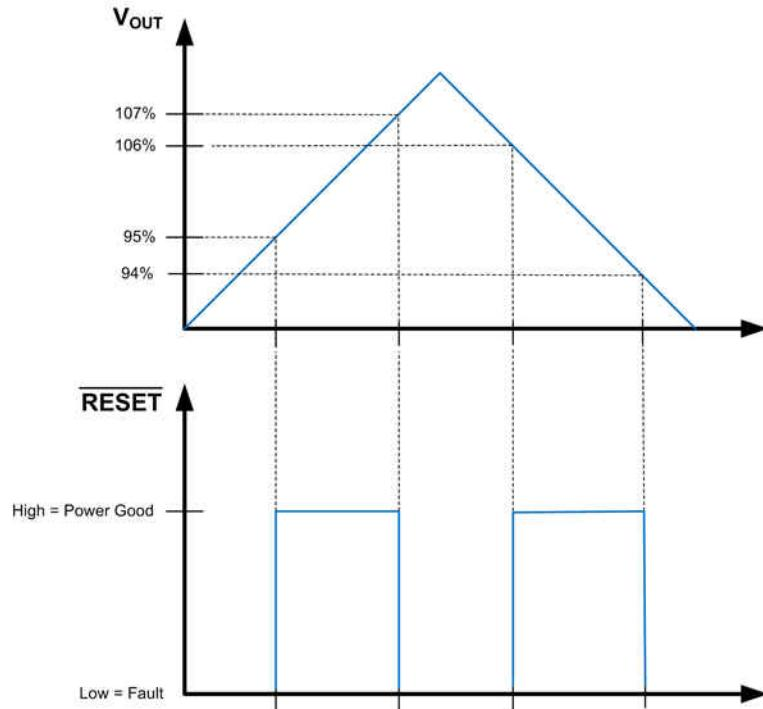
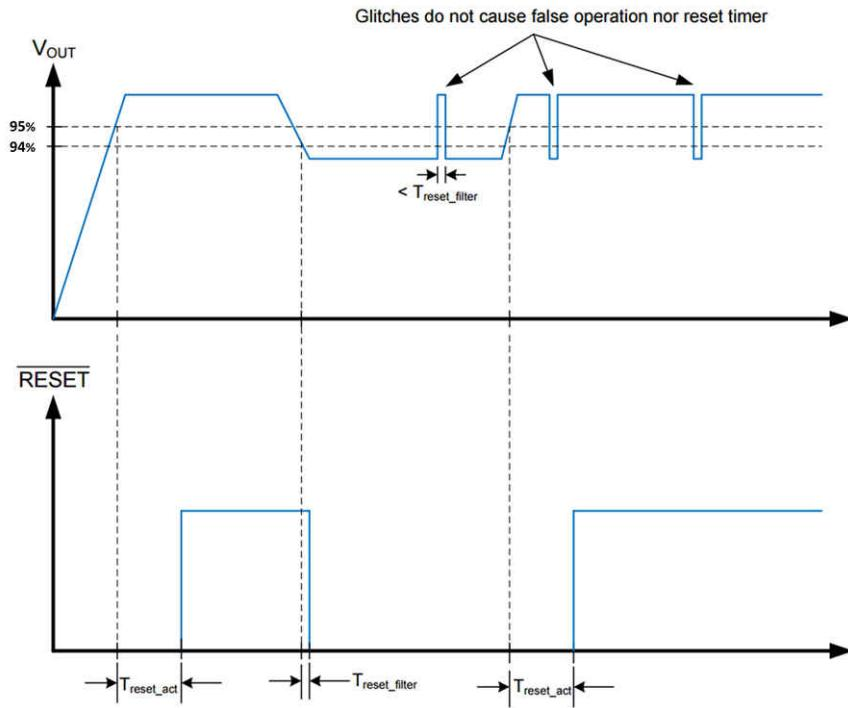
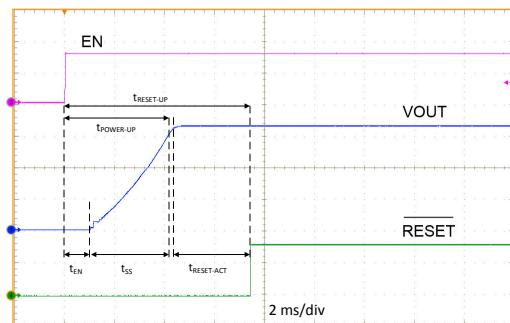

图 8-2. Static RESET Operation
图 8-3. RESET Timing Behavior
図 8-4. Typical Start-Up Waveform
- A delay has been added between the point at which the output voltage is within specified limits and the flag asserts Power Good. A glitch filter prevents false flag operation for short excursions in the output voltage, such as during line and load transients. See 图 8-3 and 图 8-4 for more detail.
Because the **RESET** comparator and the regulation loop share the same reference, the thresholds track with the output voltage. When EN is pulled low, the **RESET** flag output is forced low. When the device is disabled, **RESET** remains valid as long as the input voltage is \geq 1.5 V. **RESET** operation can best be understood by reference to 图 8-2 and 图 8-3. Output voltage excursions lasting less than $T_{RESET-filter}$ do not trip **RESET**. Once the output voltage is within the prescribed limits, a delay of $T_{RESET-act}$ is imposed before **RESET** goes high. This enables tighter tolerance than is possible with an external supervisor device while also expanding the system allowance for transient response without the need for extremely accurate internal circuitry.
A typical start-up waveform is shown in 図 8-4 along with timing definitions. This waveform indicates the sequence and timing between the enable input, output voltage, and $\overline{\text{RESET}}$. From the figure, the user can define several different start-up times depending on what is relevant to the application. 表 8-1 lists the timing definitions and typical values.